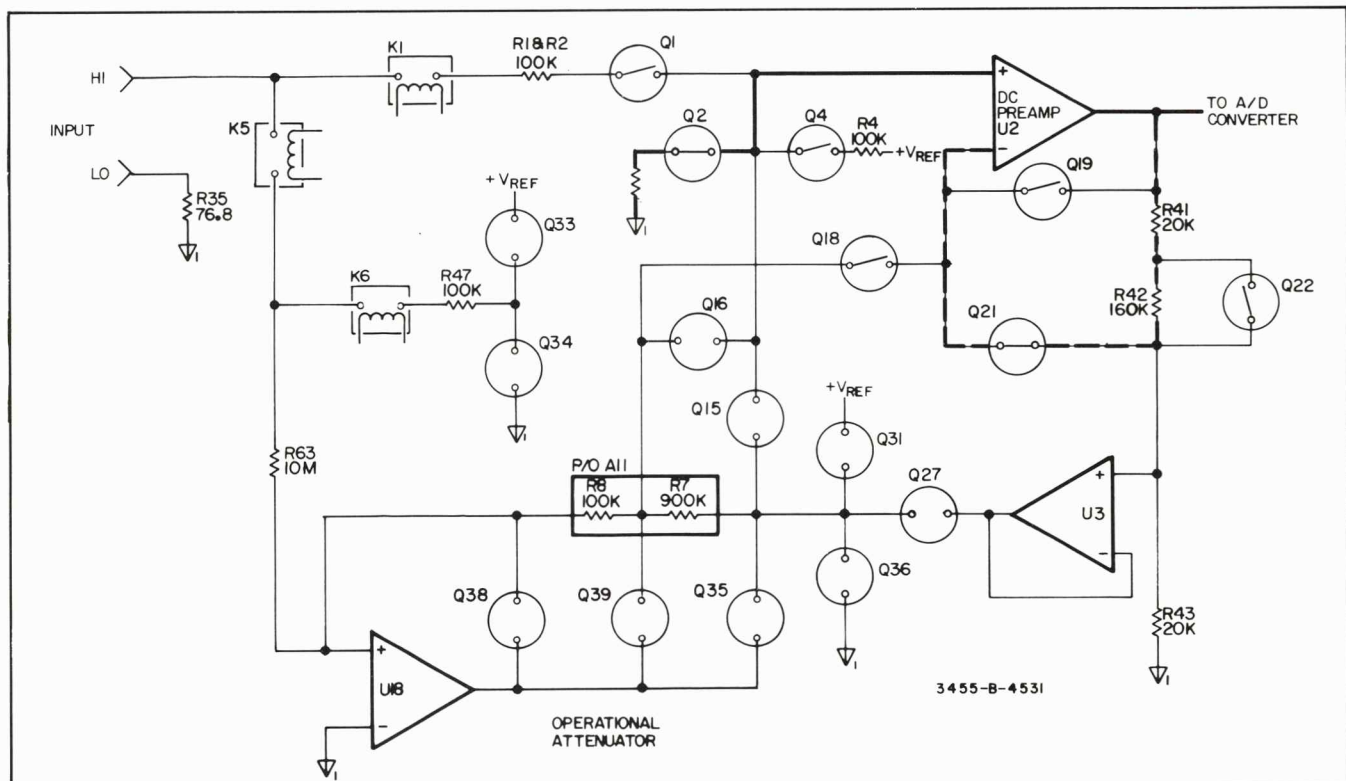

Figure 8-7. 1 V dc Input Offset Error Measurement.
**8-25. 1 V dc and .1 V dc Input Offset Error Measurement.** Offset error measurements on the 1 V dc and .1 V dc ranges are made in the same manner as the 10 V dc range except for DC Preamp gains of X10 for the 1 V dc range and X100 for the .1 V dc range. The circuit configuration for the 1 V dc Offset Error Measurement is shown in Figure 8-7. A DC Preamp gain of X10 is selected by FET switch A10Q21.